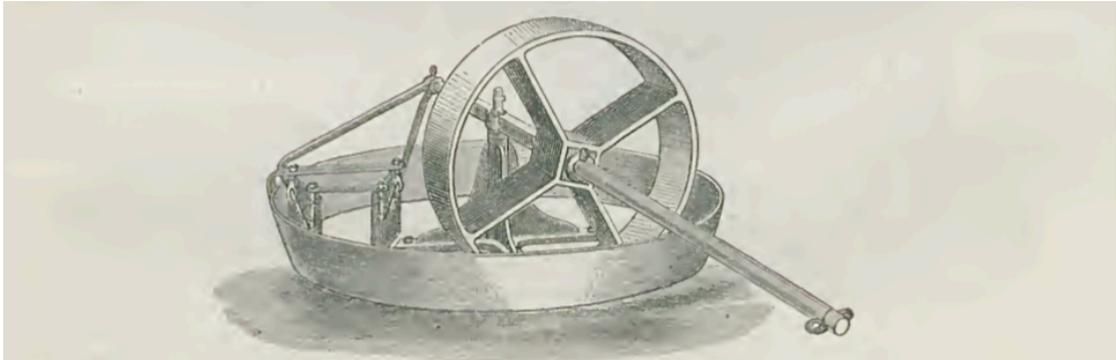

Fig. 105. *Horse Mortar-Mill.*
*Horse Mortar-Mill.*—A special mill, made by Messrs. Huxham and Brown of Exeter, to be worked by horse-power, is shown on Fig. 105.